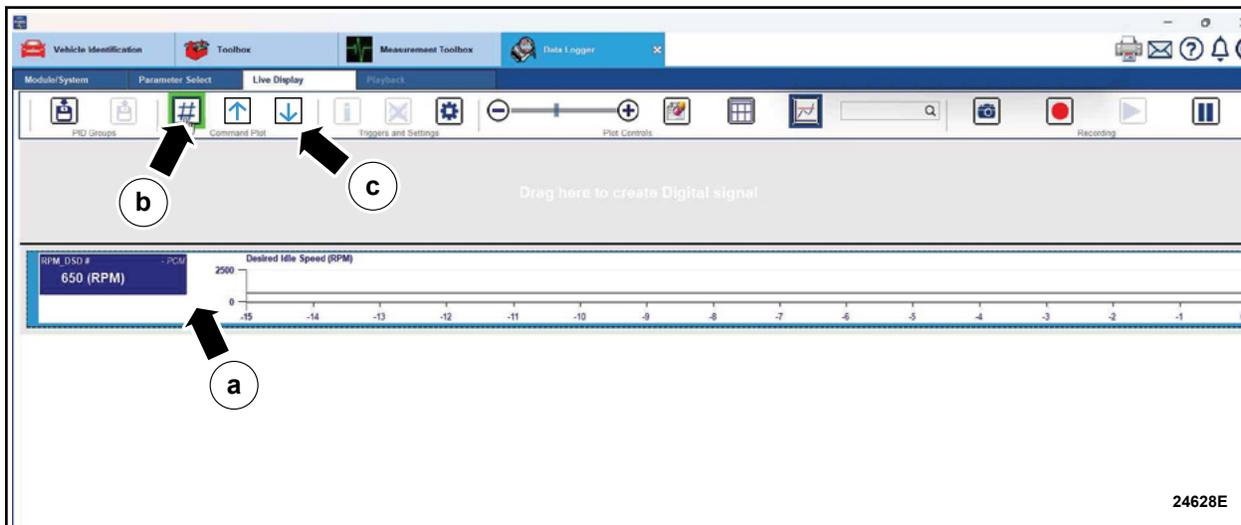

FIGURE 6
13. Enable the RPM command plot. See Figure 6.